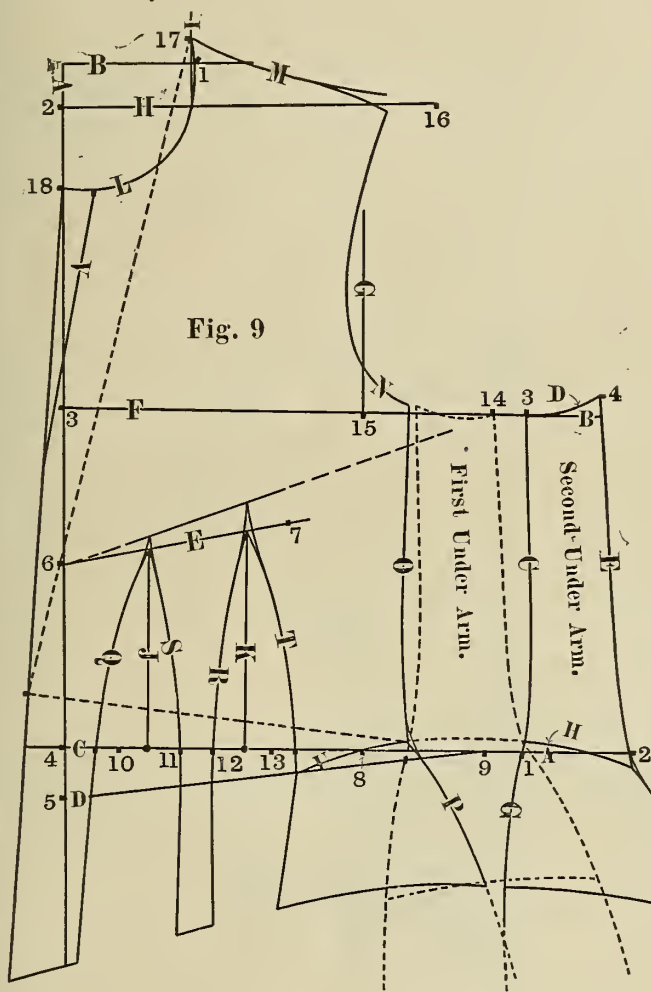

Fig. 9
(Fig. 9.)
5. Place the corner of the square again at the three-fourths inch out from 13, with the long arm on line "C," short arm to the left, and make a point at 7 in the scale of thirds. This will be the width of front on waist line as you see in Fig. 9.
19. For a high full stomach use length of front measure, which in this case is $17\frac{3}{4}$ inches. Taking off width of neck at back leaves $15\frac{3}{4}$; measure down from point 17 to where the $15\frac{3}{4}$ strikes line "A," (see dotted line) and make a point, draw a line from this point to point 9 for a new dart line. This is shown by a dotted line also on Fig. 9. The darts are now